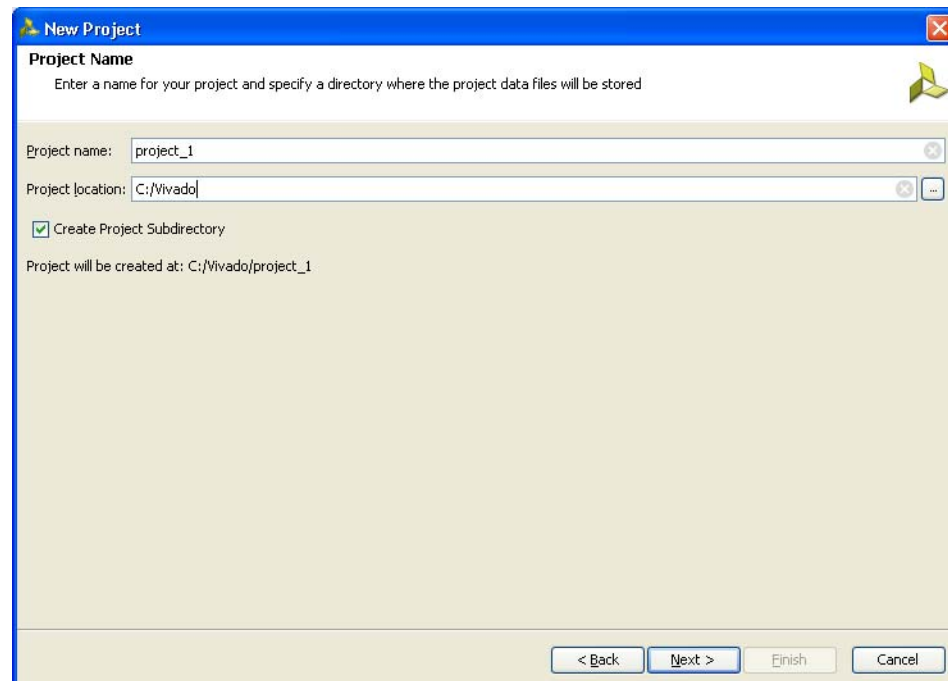

Figure 4-3: Project Name
3. Click **Next** to proceed to the **Project Name** page (Figure 4-3). Enter the **Project Name** and **Project Location**. Based on the details provided, the project is saved in the directory.